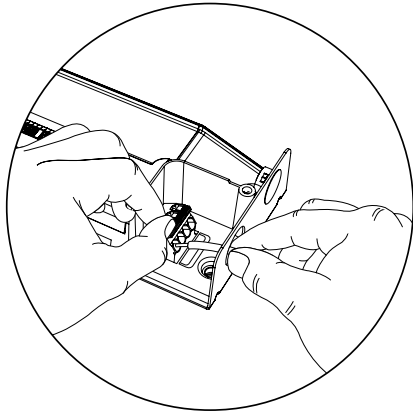

Figure 6
- Open appropriate terminals by flipping orange levers into UP position. (see fig. 6)